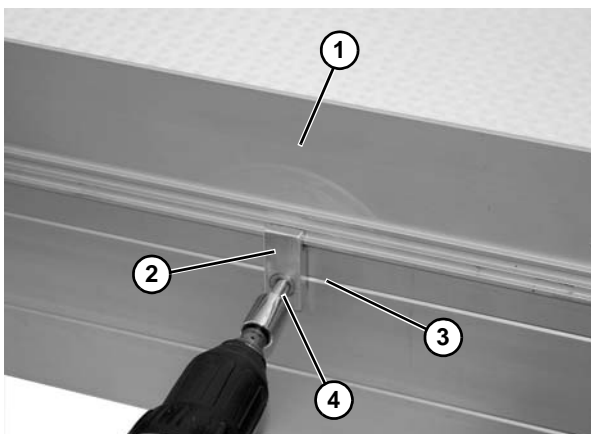

Figure 23
1. Locate guide (**Figure 23, item 1**) and retaining clip (**Figure 23, item 2**) and hold to side rail. Hole should line up with notch (**Figure 23, item 3**) in side rail.
2. With a cordless drill or equivalent install self-drilling screw (**Figure 23, item 4**). Use high speed setting to drill through side wall. Once the tap portion is started switch drill power to a lower speed. Do not fully tighten with drill.